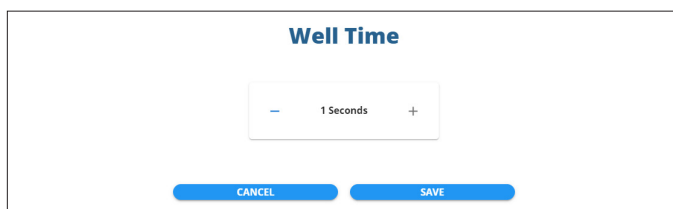

Fig. 67—Set the desired amount of time that the electrodes will be immersed in a well before taking measurements.
10. Setup the well time by selecting the *Well Time* menu. The well time is the number of seconds the electrodes are held immersed in a well before measurements are taken. The *Well Time* popup appears (Fig. 67). Enter the desired time in seconds and press *Save*. The updated value displays in the *Current State* area of the window.